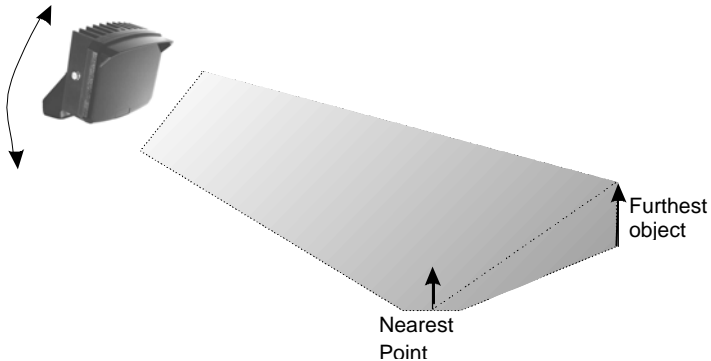

Fig.1
- Fig 1. Installing your UFLED illuminator